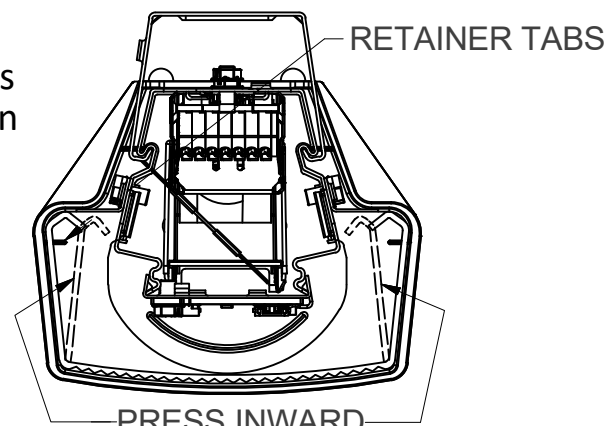

FIGURE 3: LENS
- A. At one end of the lens press inward as shown to clear retainer tabs. (See Figure 3)